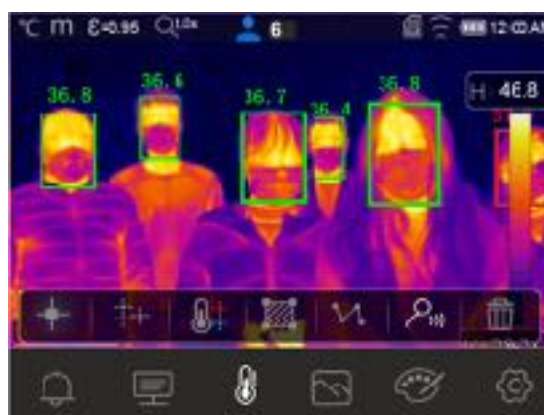

Fig. 33: Face mode on more people
7. The Face mode allows for the face temperature of several people (**up to 10 people**) to be evaluated at the same time (see Fig. 33). The counter “” found at the top of the display indicates the number of statistically valid detections.